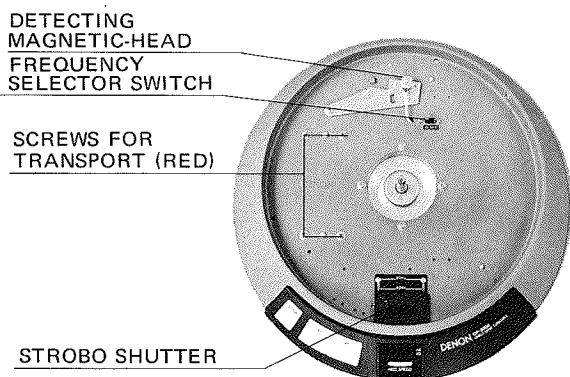

Fig. 3
5. Remove the red colored head screws (Fixing screws for transport) clamping the power transformer for transportation. (See figure 3)